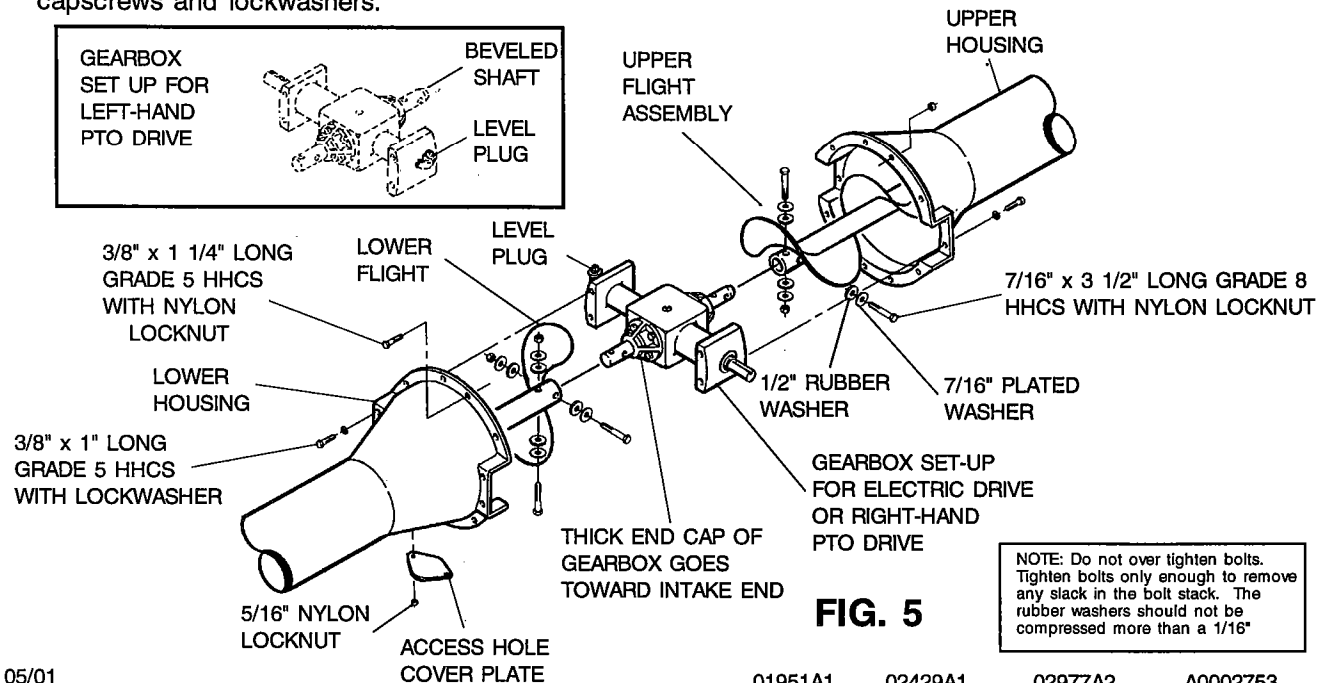

FIG. 5
NOTE: If the unit is to be PTO driven, the drive can be assembled on either the right or left side of the auger. Fig. A on page 10 shows a PTO drive installed on the right-hand side. The gearbox is shipped ready for right hand installation. See Fig. 5. To convert it for left-hand installation, rotate the gearbox filler elbow 180° (so it will be pointing up after the gearbox is installed). See inset, Fig 5.
NOTE: If the unit is to be motor driven, the gearbox is ready to assemble as shown in Fig. 5. and must not be converted.
4. Connect the upper gearbox shaft to the upper flight assembly using two 7/16" x 3 1/2" long (grade 8) hex head capscrews, four 1/2" rubber washers, four 7/16" washers and two locknuts. Tighten the locknuts only enough to slightly compress the 1/2" x 1/4" thick rubber washers. **DO NOT** compress the washers more than 1/16" Fig. 5. **NOTE:** Observe the gearbox end caps where shafts will connect to flight. The thicker end cap must face intake end.
6. Connect the lower flight to the gearbox with two 7/16" x 3 1/2" long (grade 8) hex head capscrews, four 1/2" rubber washers, four 1/2" washers and two locknuts. See Fig. 5 and 6.
7. Bolt the lower drive housing to the gearbox with four 3/8" x 1" long (grade 5) hex head capscrews and lockwashers. See Fig. 5 on previous page. When joining the drive housings, be careful to align the flight tail stub with the bronze bearing located on the intake guard.